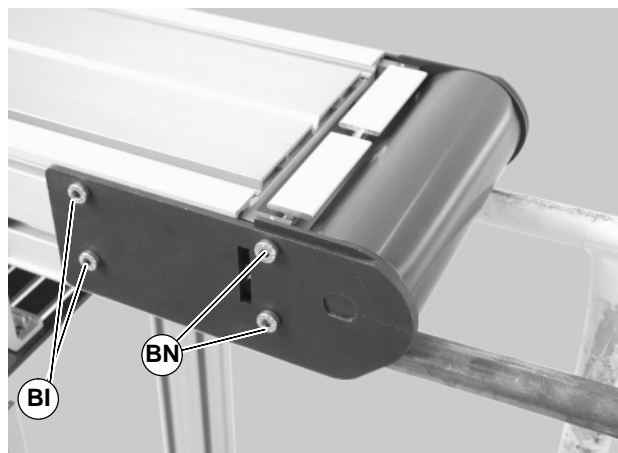

Figure 47
2. On one side of conveyor, loosen the two (2) back fastening screws (BI of Figure 47) and remove two (2) front fastening screws (BN).